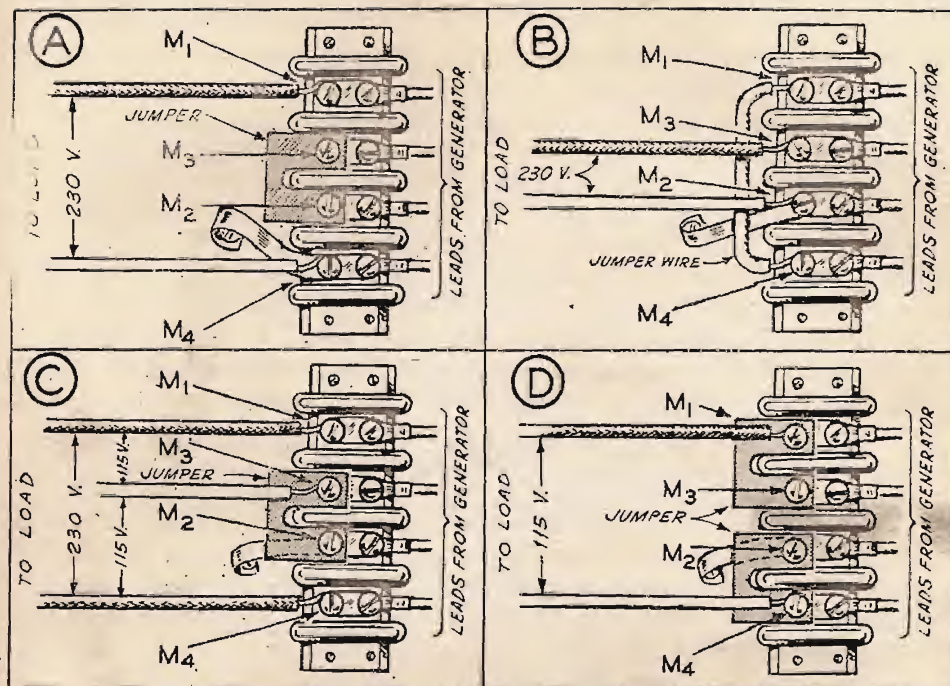

Fig. 8 Single Phase Plant
Load connections are to be made to terminals inside the terminal box on the side of the generator. These load terminals are marked M1, M3, M2, and M4 from top to bottom. When the plant is shipped, two heavy jumper bars are connected across terminals M3 and M2. This jumper connection provides for two 115 volt circuits (with 1/2 the plant capacity available on each separate circuit), or one 230 volt circuit. Refer to C, Fig. 8. For 115 volt service, connect the black (hot) wires to the M1 and M4 terminals, and the white (ground) wire to the M2 or M3 terminal. Remember that ONLY ONE HALF the rated capacity of the plant will be available on either of the two separate 115 volt circuits. The two black wires will give 230 volt ungrounded service.
If the full rated capacity of the plant at 115 volts ON ONE CIRCUIT ONLY, is desired, remove the two jumper bars from across terminals M3 and M2. Reconnect the jumper bars, one across terminals M1 and M3, and the other jumper across terminals M2 and M4. Connect the black (hot) load wire to the M1 terminal, and the white (ground) wire to the M4 terminal. Refer to D, Fig. 8.
If 230 volt current only is to be used, and NEITHER load wire is white (grounded), leave the jumpers connected across terminals M3 and M2. Connect load wires to terminals M1 and M4. Refer to C, Fig. 8.
A. Remove the two jumper bars connecting terminals M3 and M2, temporarily. Disconnect the short grounding wire from the M2 terminal and connect it to the M4 terminal. Reconnect the jumper bars across terminals M3 and M2. Connect the black (hot) load wire to the M1 terminal, and the white (grounded) load wire to the M4 terminal. Refer to A, Fig. 8.
B. Remove (and save for possible future use) the two jumper bars connecting terminals M3 and M2. Using a short length of #10 or larger wire, connect terminals M1 and M4 together. Connect the black (hot) load wire to the M3 terminal, and the white (grounded) load wire to the M2 terminal. Refer to B, Fig. 8.
Be sure the jumper connections are properly made, as explained under **VOLTAGE SELECTION, SINGLE PHASE PLANT**. Connect the load wires to the proper terminals as shown, according to the jumper connections made, Fig. 8.
Some early plants with SPEC designation ending in the letter "A" were not internally grounded. If inspection shows that there is no ground jumper wire between the M2 terminal and a grounding screw inside the terminal box (Fig. 8), a similar ground connection must be made. Run a short length of No. 10 wire between the battery negative terminal and the M2 terminal, if 115/230 volt service is to be used. If grounded 230 volt service is to be used, connect the ground jumper to the M4 terminal, instead of to the M2 terminal. BE SURE THIS GROUND JUMPER WIRE IS PRESENT IN ALL CASES WHERE USING AUTOMATIC CONTROL EQUIPMENT.